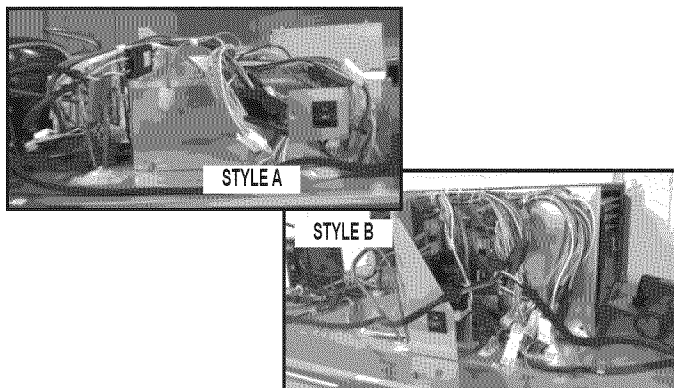

FIGURE 3
**NOTE:** Following removal of the dog house (top unit cover), the unit will look similar to Style A or Style B below. See *Figure 3*.
**IMPORTANT:** If your unit looks like Style A (See *Figure 3*), continue to step 6. If your unit looks like Style B, skip ahead to step 21, *Style B Installation*.